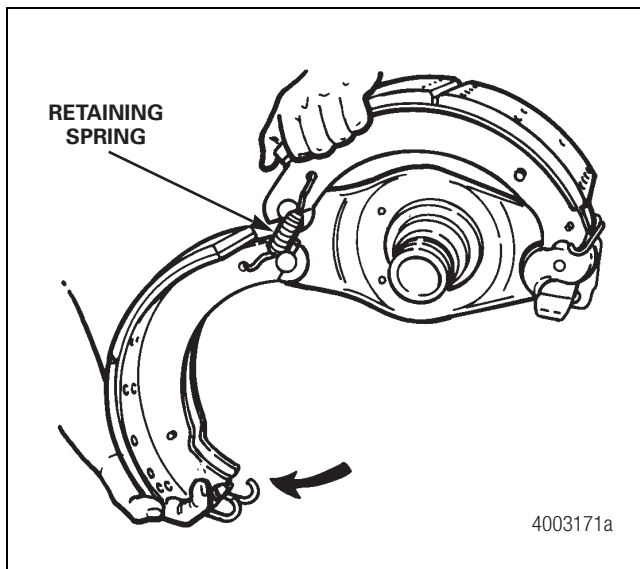

Figure 3.13
4. Rotate the bottom shoe to release tension on the two retaining springs. Remove the springs and brake shoes. Figure 3.13.